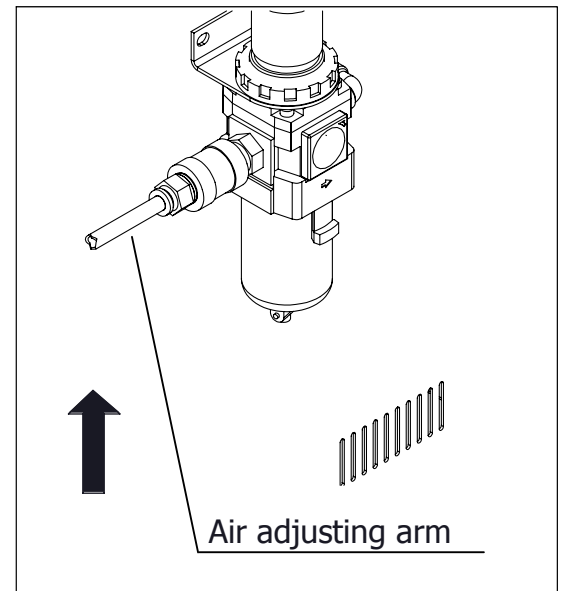

Figure.16
- c) Control that air adjusting arm of the machine is open. (Figure.16)
a) Ensure that air adjusting arm of the machine is open. (Figure.16)